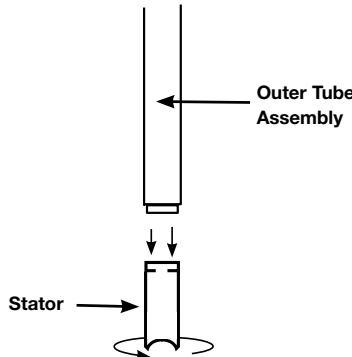

Figure 10
6. Remove the stator from the pump tube body by turning clockwise (see Figure 10).
7. Thread stator can onto pump body (see Figure 10).